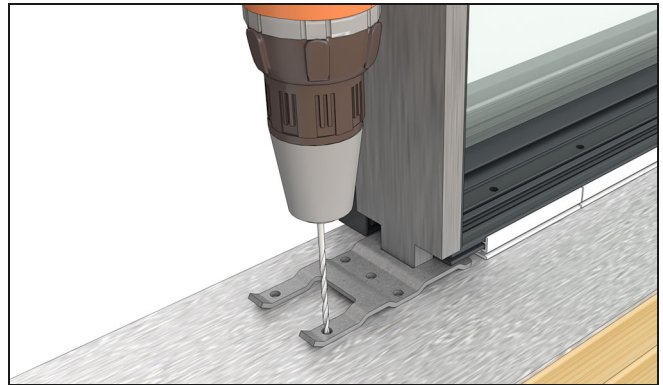
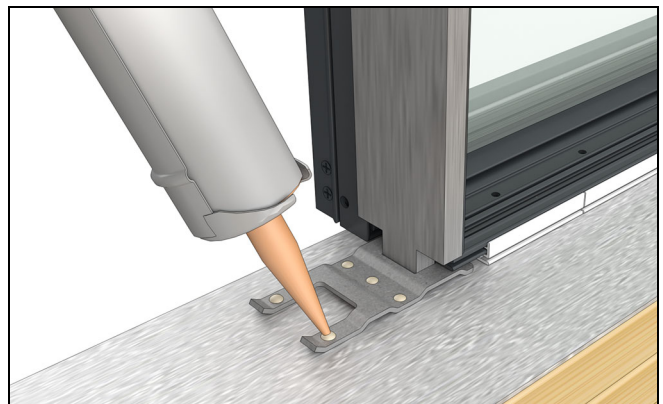

Figure 46
Figure 47
13. Adjust the frame and bracket so it is square in the opening. Fasten the bracket to the sill using #10-12 3" T20 Torx pan head 2/3 thread screws or similar depending on the sill material. See Figure 46 and Figure 47.